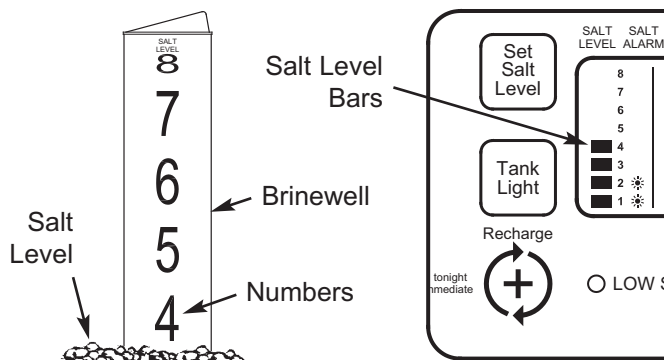

FIG. 24
2. The salt level scale, on the brinewell inside the tank, has numbers from 0 to 8 (see Fig. 24). Observe the highest number the leveled salt is at, or closest to.
3. Press the SET SALT LEVEL button as many times as necessary to make the salt level bars in the display (see Fig. 24) match the number on the brinewell. At level 2 or below, the “Low Salt” indicator will flash.